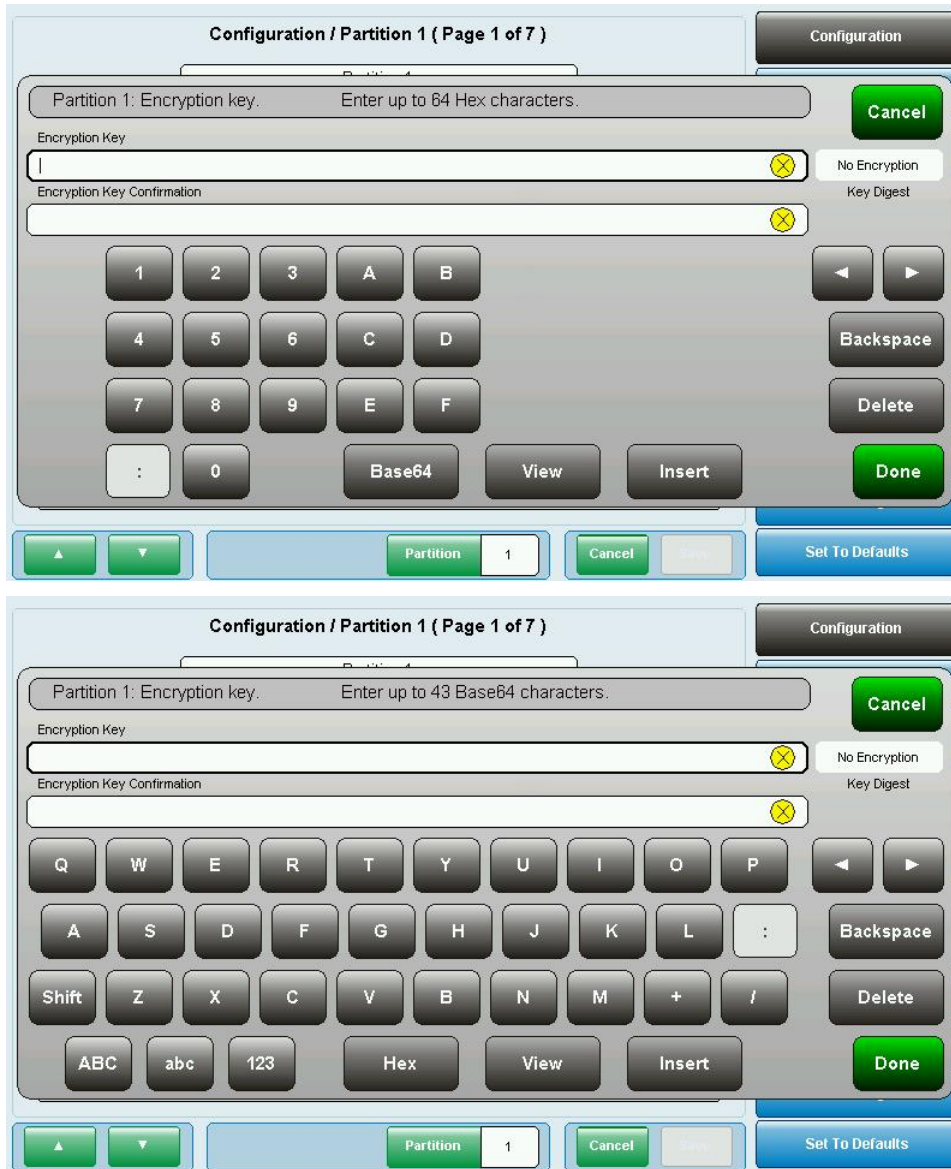

Figure 9-10 The Hex and Base64 Screens
3. Press the Proceed button to advance to the screen which allows the encryption key to be entered. The data may be entered in either hex characters or Base64 character set. The two screens can be alternated by pressing the Base64 or Hex button on the screen. Figure 9-10 shows both screens. When using hex characters up to 64 digits may be entered. 43 characters are allowed in Base64 and they may include A through Z in both upper and lower case, 0-9, along with the + and / symbols.